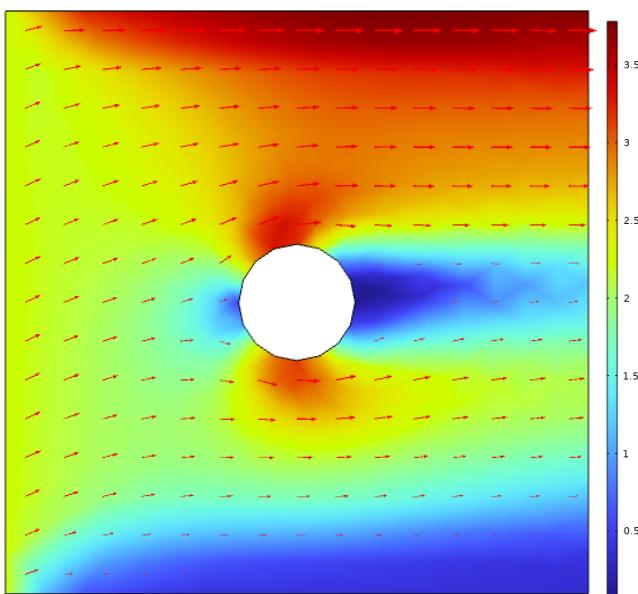

Figure 7. Expected unit test output, Q7. **Top:** Velocity field and magnitude, $t = 0$ seconds. **Bottom:** Velocity field and magnitude, $t = 1$ second
- Plot the velocity magnitude and velocity field. Your result should look similar to the plots in Figure 7.